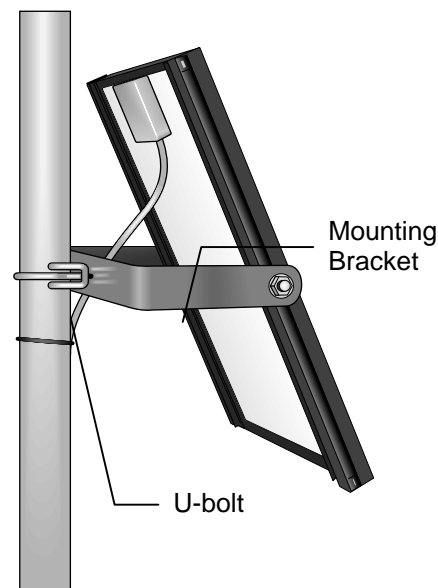

FIGURE 3.1-9. MSX10 Solar Panel
1. Mount the MSX10 solar panel to the mast, facing south (northern hemisphere) as shown in Figure 3.1-9. Position the MSX10 at the top of the 1 1/4 inch diameter section of the mast. Install the U-bolt, muffler clamp, and nuts as shown in Figure 3.1-9.